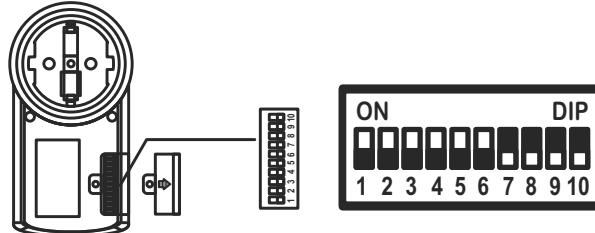

Figure 2
The position of these switches determine the communication channel between the remote control and the socket. You need to make sure that the combination in the remote control is the same as the combination in the socket you wish to control. Sockets also have a row of switches (4). The first 5 switches in this row are used to select the communication channel (Figure 2).
You will need to adjust the channel selector switches (shown in Figure 2) of the socket that you wish to assign to a different letter. Keep in mind that the first 5 switches are used to select the communication channel, and need to be in the same position as the switches in the remote control.